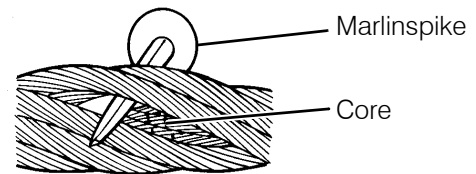

Figure 6-6 Wire Rope Core Inspection
- Core failure. This type of damage is usually indicated by a reduction in the nominal diameter or by an increase in rope lay length. When a reduction in diameter or an increase in rope lay length is noted, open up the wire rope as shown in Figure 6-6 and carefully inspect the core. The wire rope should be replaced if any wires in the core are broken.